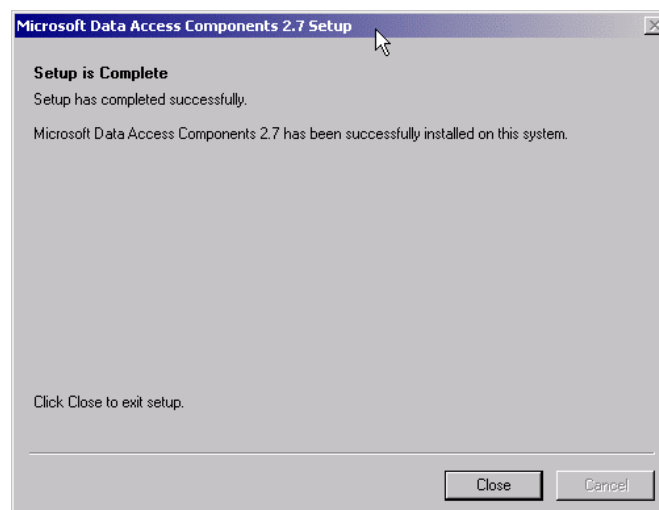

Figure 2.10
8. After the afore mentioned components have been installed automatically from the GENESIS32 CD, you will see the window in **Figure 2.10**, which informs of the completion of ADO installation. Click on the **Close** button to exit the MDAC installation.